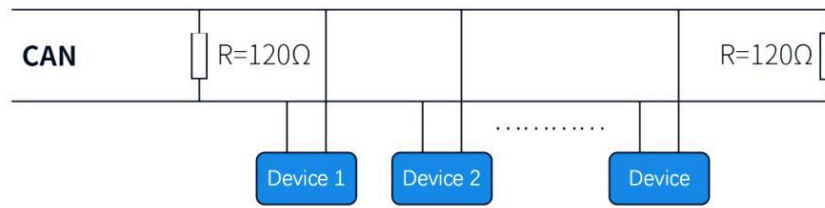

Figure 3-1
- When using CAN protocol to connect multiple devices, please refer to the connection method shown in Figure 3-1 below.